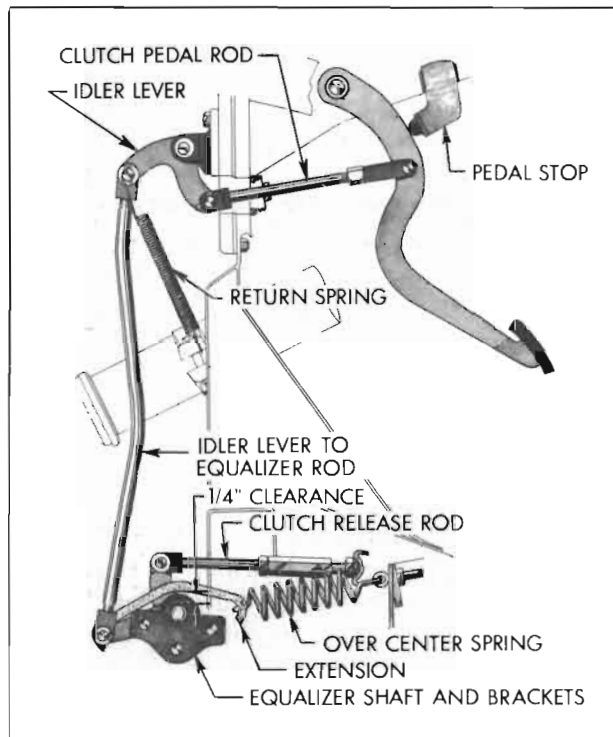

Figure 4-3—Clutch Linkage
The clutch pedal is of the suspended type and pivots on a shaft which extends through brackets bolted to the cowl. This shaft is also used to suspend the standard brake pedal. (Power brakes are not available on a synchro-mesh car.) The clutch pedal returns against a non-adjustable pedal stop under the instrument panel. See Figure 4-3.
The over center adjustment is important because when the equalizer position is properly adjusted, the over center spring helps hold the clutch pedal against its stop. As soon as the pedal is partially depressed, however, the equalizer passes over center and the over center spring helps depress the pedal. This results in a lower pedal pressure. See Figure 4-3.
5. Rotate pedal rod clevis as necessary for clevis pin to slip in freely with both clutch pedal and clevis pulled to the rear. See Figure 4-3.
2. With car raised, check over center adjustment as described in subparagraph a. above. Clutch equalizer must be in proper position before pedal lash is adjusted. See Figure 4-3.
4. Turn adjusting nut so that when equalizer is rocked over center by hand total free movement at outer end of clutch release yoke is $\frac{1}{4}$ ". See Figure 4-3. This should give correct lash at the pedal. Tighten adjusting nut jam nut.